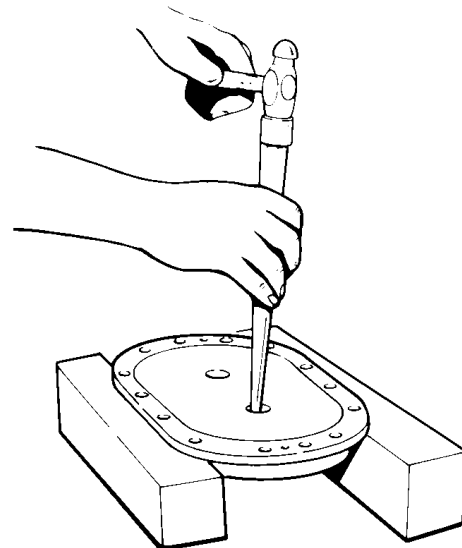

FIGURE 16
12. Remove the two drive end bearings (15) from the drive headplate (24) using a ball peen hammer and punch (see FIGURE 16, page 14).
13. The grease seals can now be driven out of the drive headplate with hammer and punch (see FIGURE 16, page 14). Discard the seals as they will not be reused. Replace grease seals each time the headplate is removed.